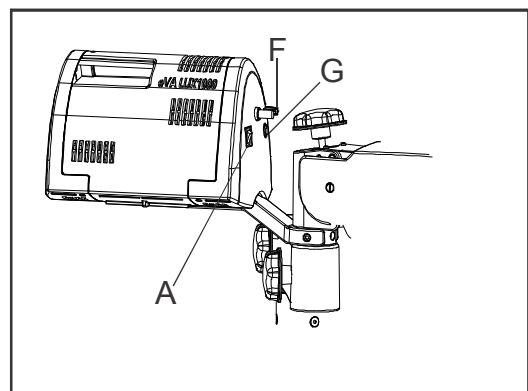

Fig. 8a
It is located in the front of the illumination box as shown as (A) in fig. 8a. At 'ON' position, green LED glows and cooling fan starts running. Keep the intensity control knob at minimum level before switching on the system.
9.6 Camera potentiometer inlet, shown as G in fig. 8a.
9.7 Yellow filter to swing in and swing out as shown as F in fig. 8a